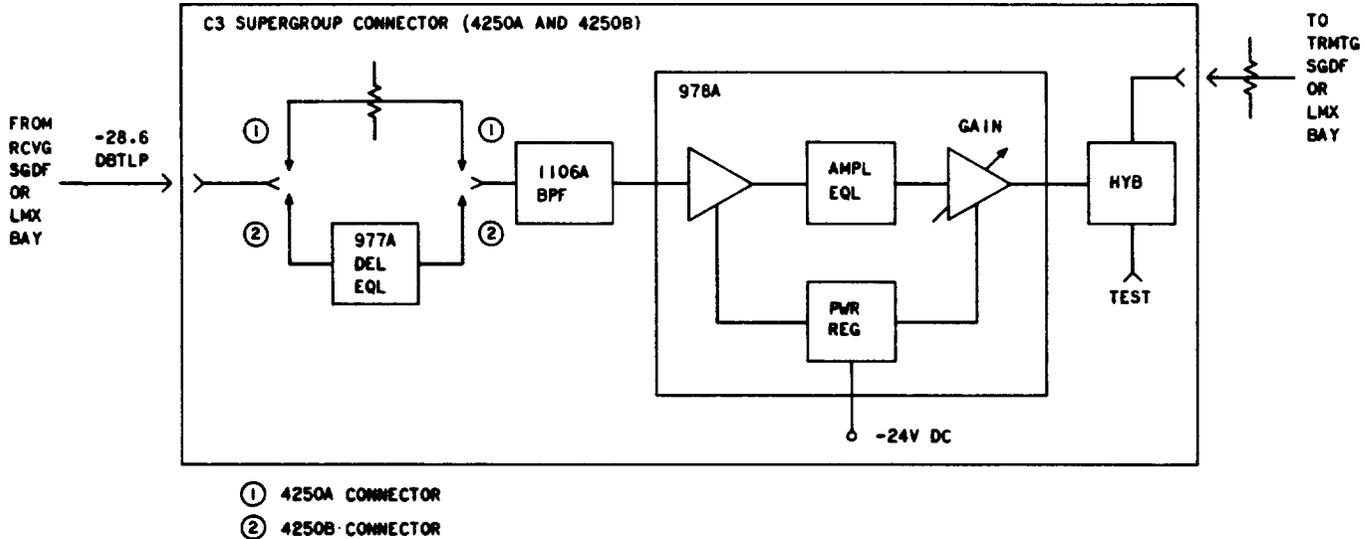

Fig. 2—Block Diagram of C3 Supergroup Connectors
**Note:** Two arrangements of the C3 supergroup connector (SD-51597) are available: the 4250A and the 4250B networks (Fig. 2). These connectors are identical except the 4250B network includes a delay equalizer. Six connectors can be mounted in supergroup connector shelf ED-52427 in supergroup connector bay J68941M, AE, or AF.